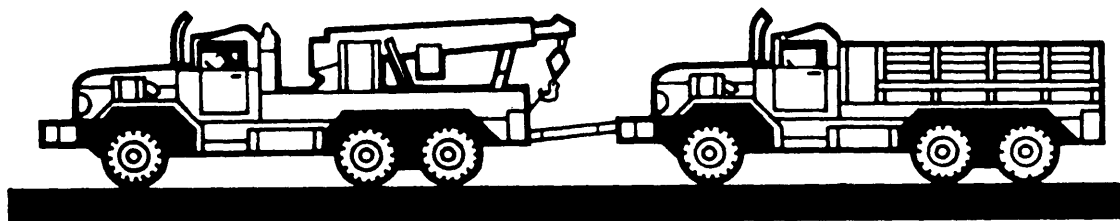

Figure 5-11.—Cross-country tow.
CROSS-COUNTRY TOW.— Over rough terrain, across-country tow controls the towed vehicle well. The procedure for rigging for the cross-country tow is as follows: (1) attach a chain lifting sling or the hoisting bar between the front lifting shackles of the truck; (2) attach a tow chain from the wrecker tow pintle to the lifting shackles of the disabled truck; (3) place the hoist hook block in the lifting sling approximately 12 inches off the ground; (4) extend the boom to remove the slack from the tow chain, and keep the towed vehicle from ramming into the rear of the wrecker truck; and (5) support the boom with the shipper braces to prevent impact loads on the crane mechanisms. (See fig. 5-11.)